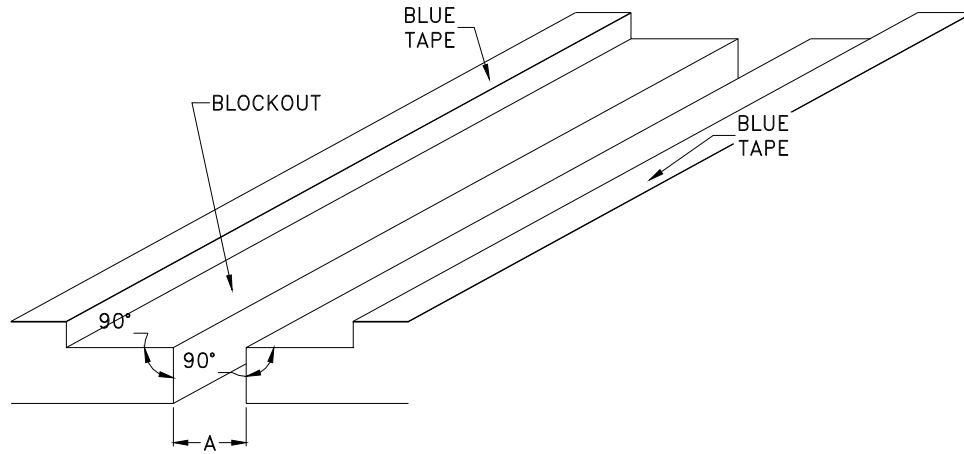

Figure 4
STEP 2. Apply blue tape to the deck surfaces adjacent to the blockout. Balco, Inc. also recommends that Kraft paper be used in conjunction with the blue tape to protect the concrete surfaces from tack coat and elastomeric concrete splatter, spills, tracking, etc. (see Figure 4).